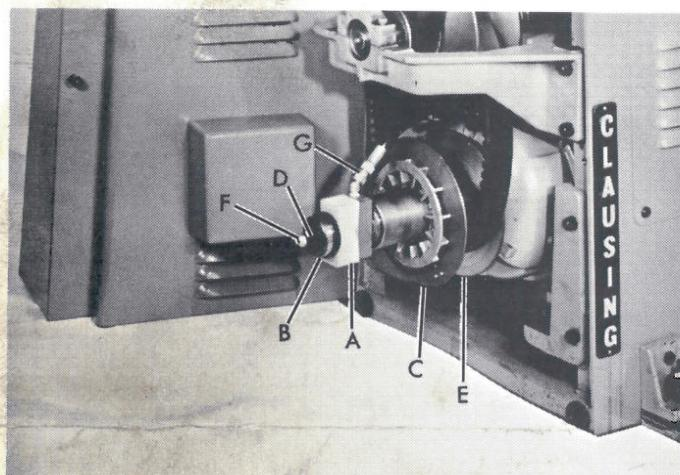

FIGURE 6
6. Hold variable pulley (C, fig. 6) so it will not rotate. Turn locknut (F) until approximately 1/8" of shaft (D) extends beyond locknut.
7. Start fitting (G) onto elbow.
2. Hold variable pulley (C, fig. 6) so it will not rotate. Turn locknut (F) — clockwise if speed is too low, counterclockwise if speed is too high.